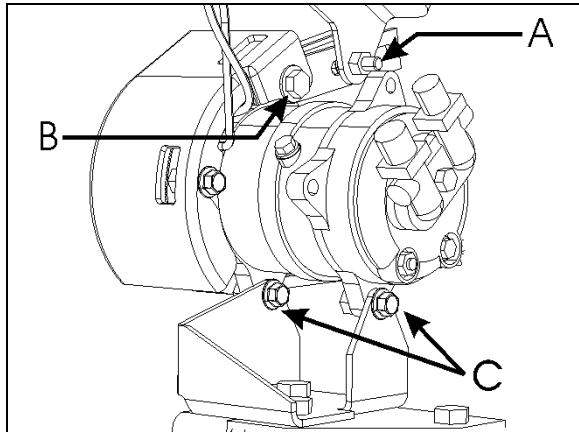

FIGURE 38: COMPRESSOR REMOVAL OR INSTALLATION 22349
- * Slacken bolts A (Refer to figure 38).
- * Remove bolts B & C (Refer to figure 38).